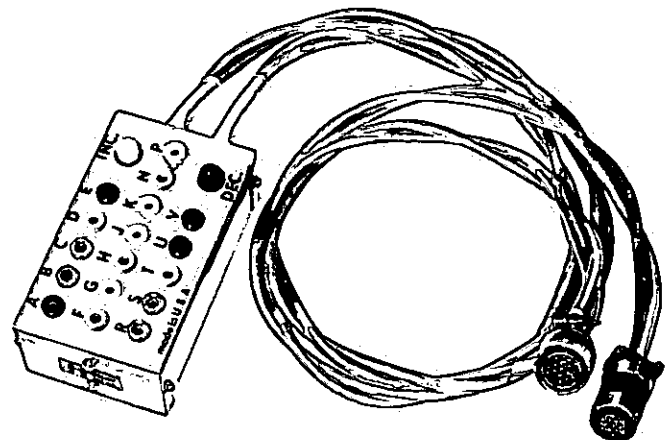
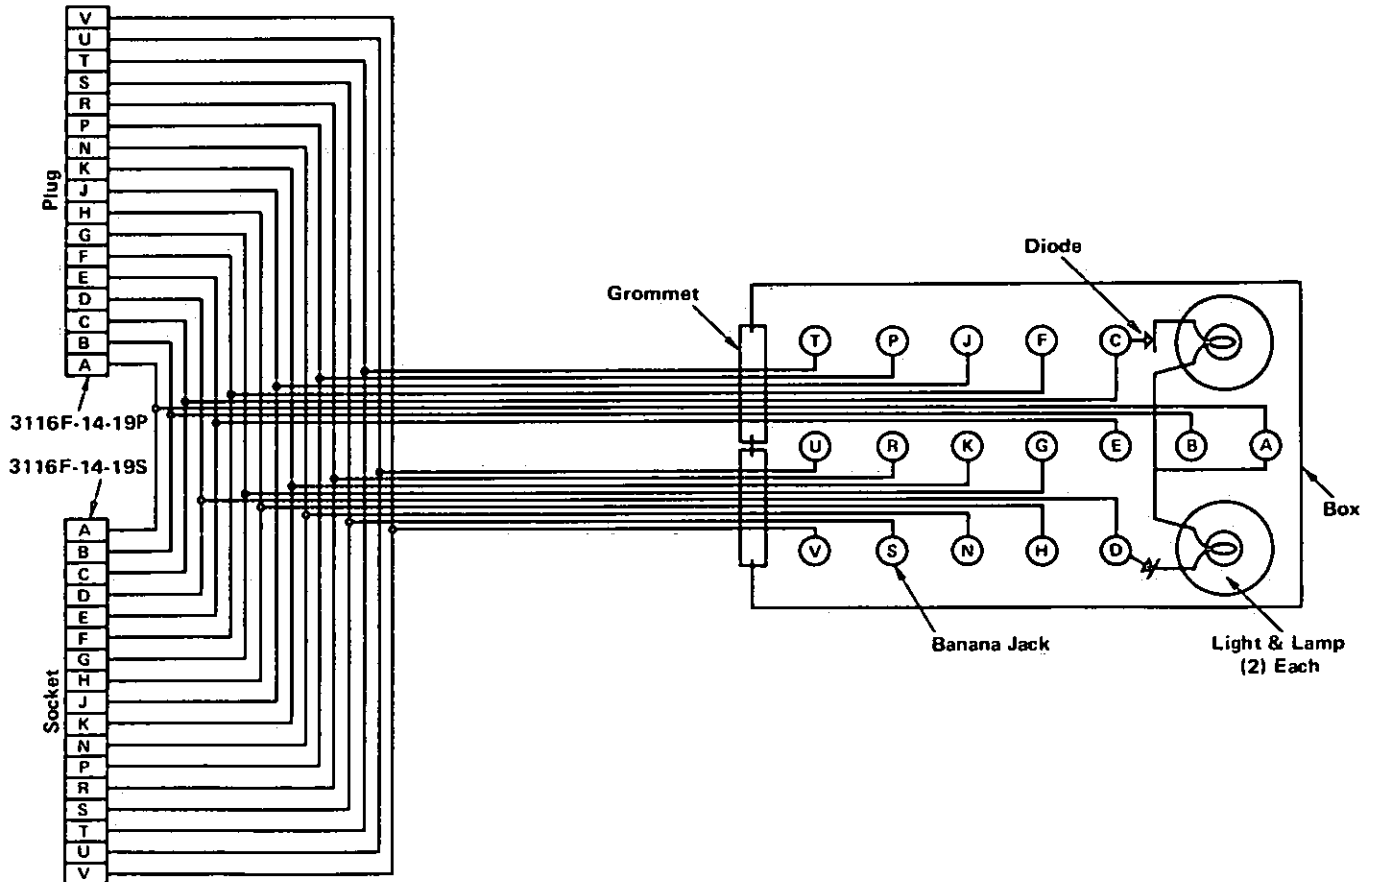

Figure 10. Woodward Test Instrument 213606
Figure 11. Diagram of Woodward Test Instrument 213606
- 213606 (figure 10) is a simple test instrument that mates to the MS 3116 Connector. It has pulse indicating lights and jacks for checking voltages and resistance values only. (These readings are given on the wiring test above.) It can be built in the field from the diagram and parts list in figure 11.